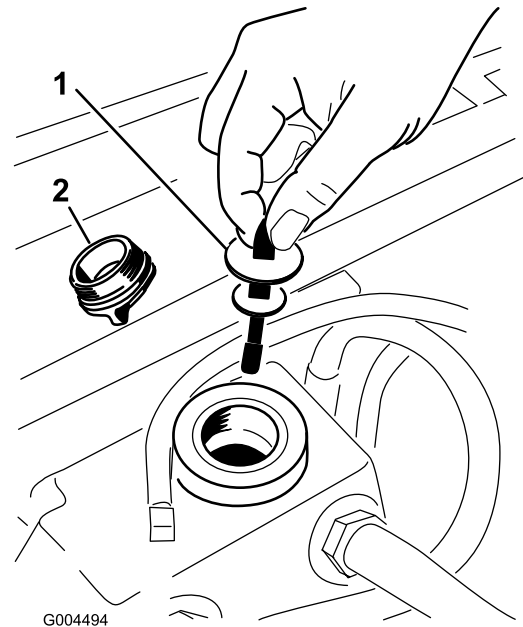

Figure 95
5. Remove the hydraulic fill cap from the filler neck (Figure 95).
6. Remove the dipstick and wipe it with a clean rag (Figure 95).
7. Place the dipstick into the filler neck; then remove it and check the level of fluid (Figure 95).